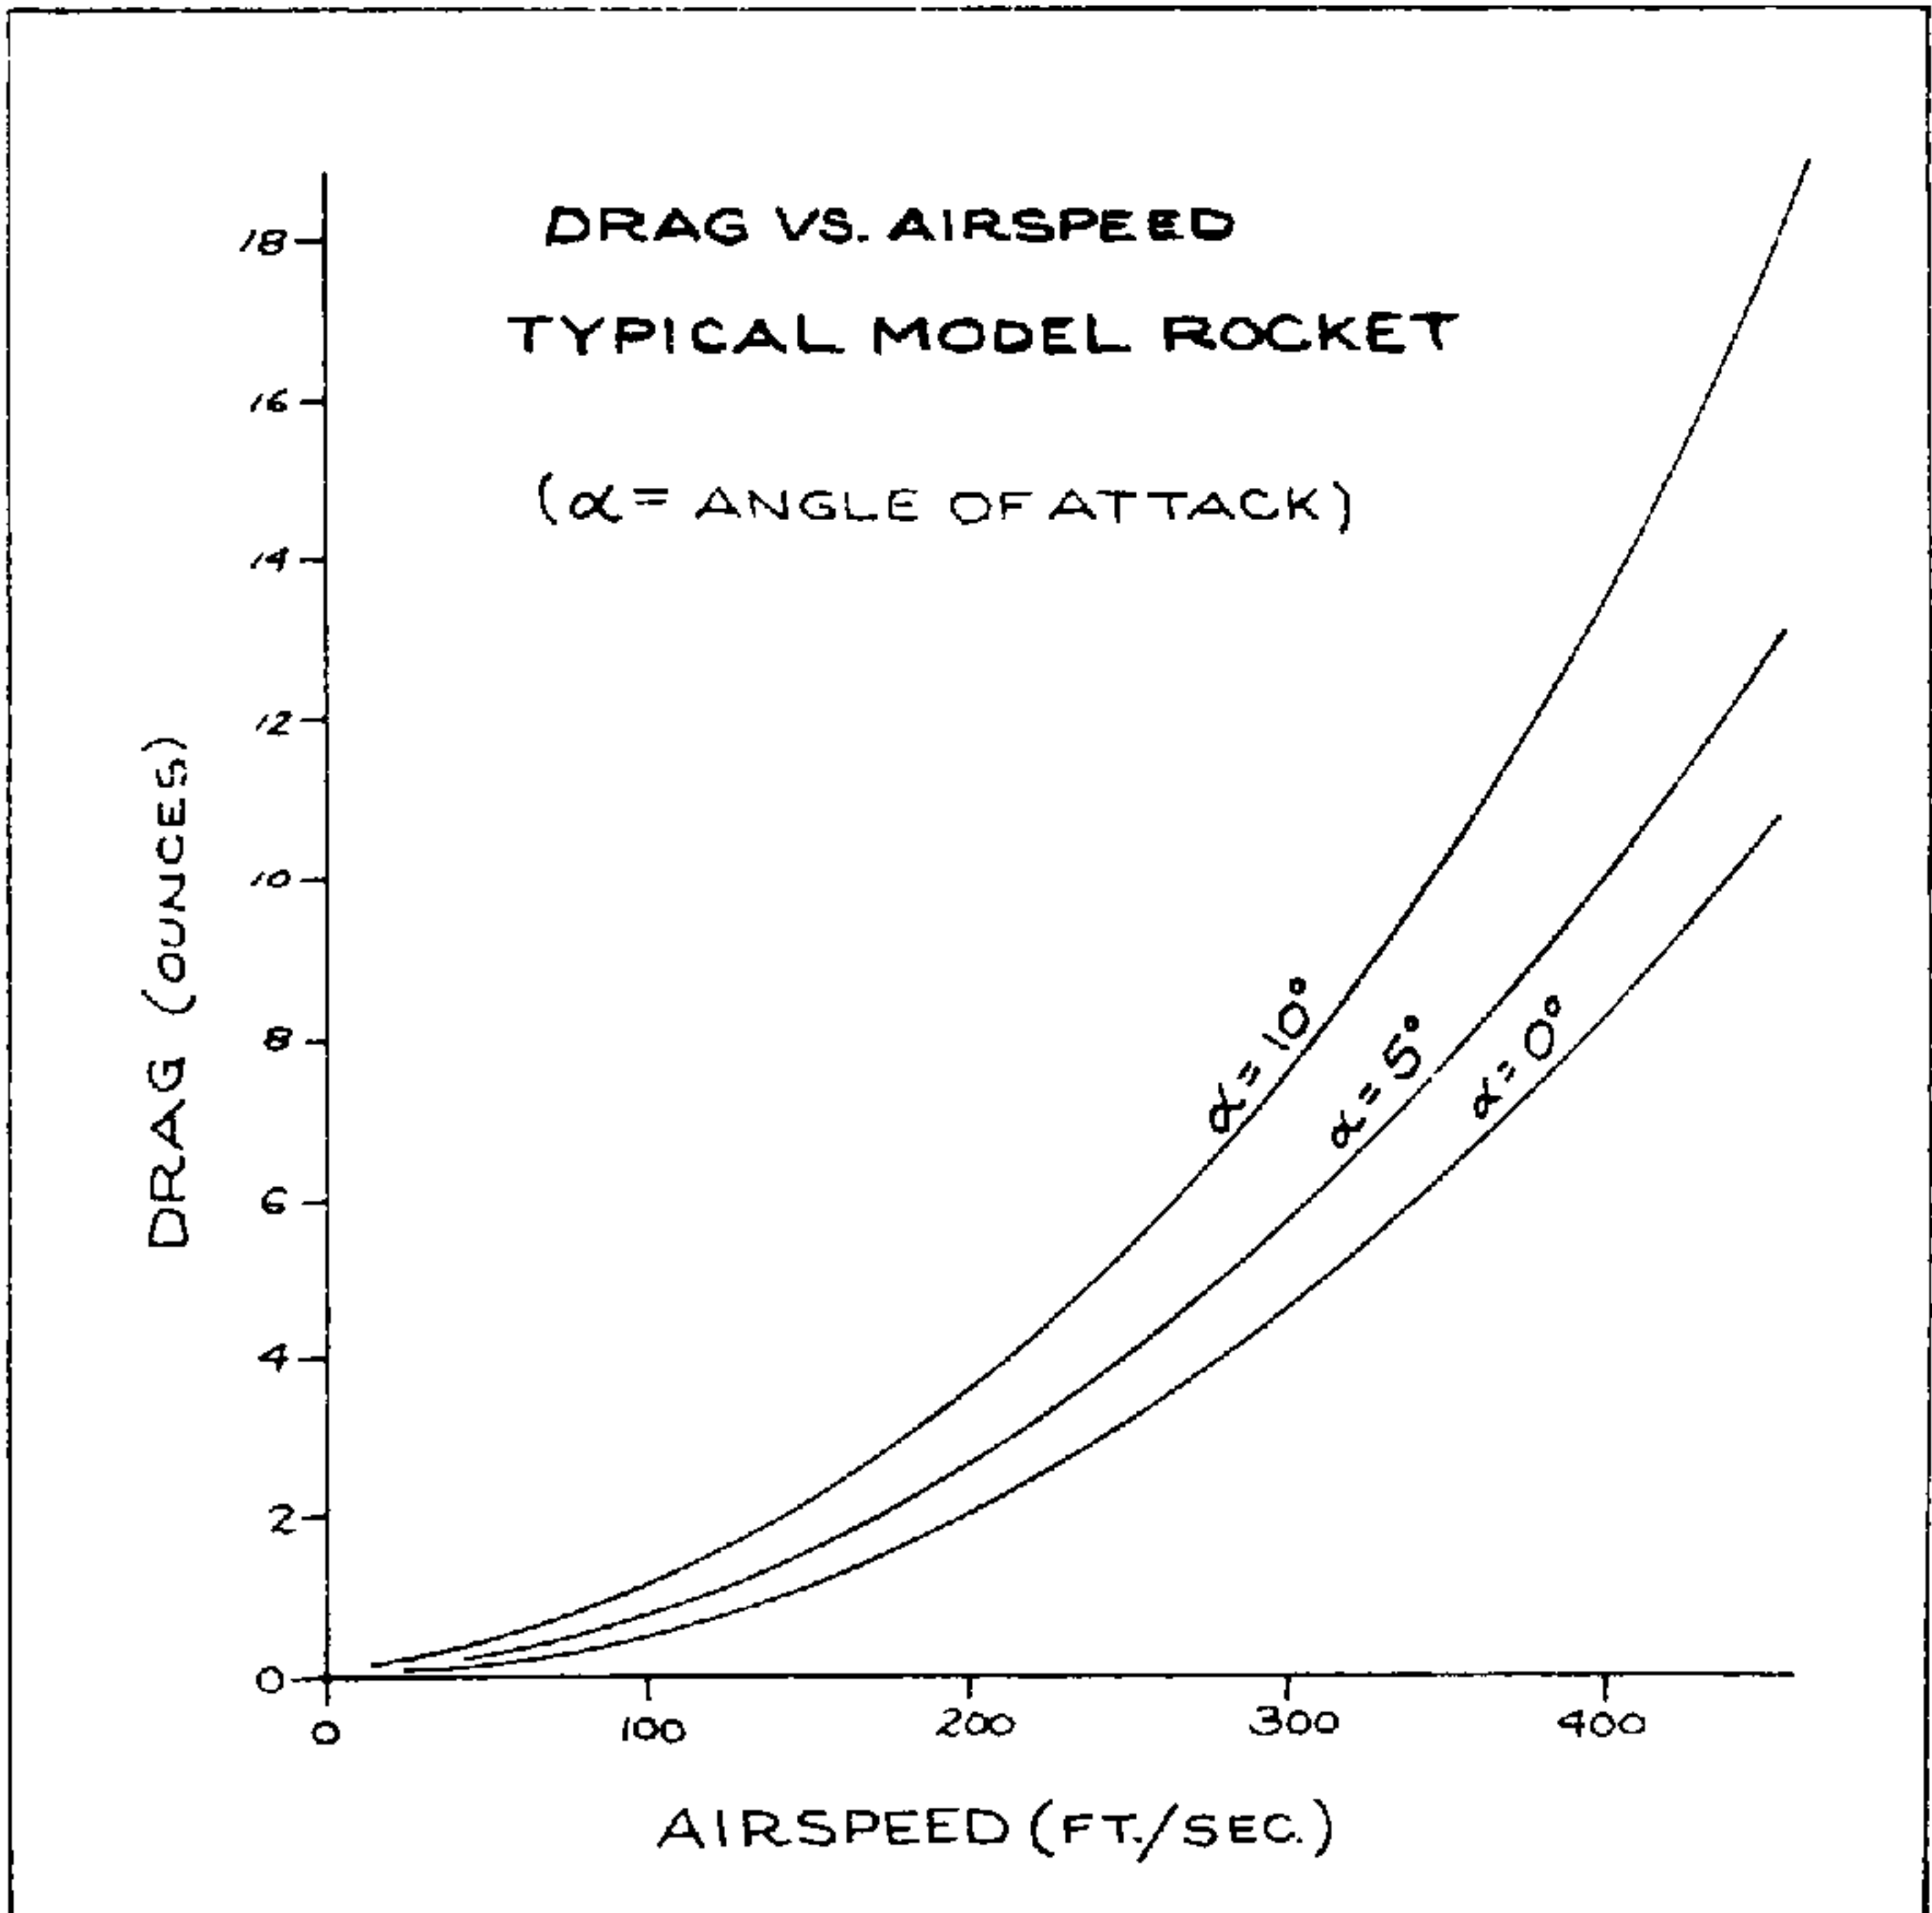

FIGURE 8-4 Drag forces versus airspeed for a model rocket at various angles of attack. Data came from wind tunnel tests at the U.S. Air Force Academy.
2. Air drag increases as the *square* of the velocity. Double the velocity, and the drag force goes up *four times*. The faster the model goes, the greater the drag force becomes. See Figure 8-4.